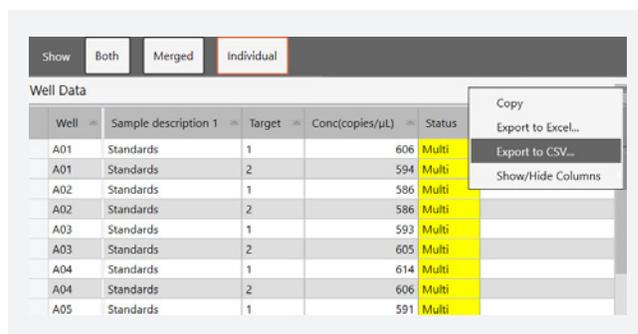

Fig. 2. Exporting data for analysis. On the Data Table tab, select **Individual** and choose **Export to CSV** from the dropdown menu.
6. Click the Table Menu icon on the far right and click **Export to CSV** from the dropdown menu (Figure 2).
1. Export to .csv as shown in Figure 2.